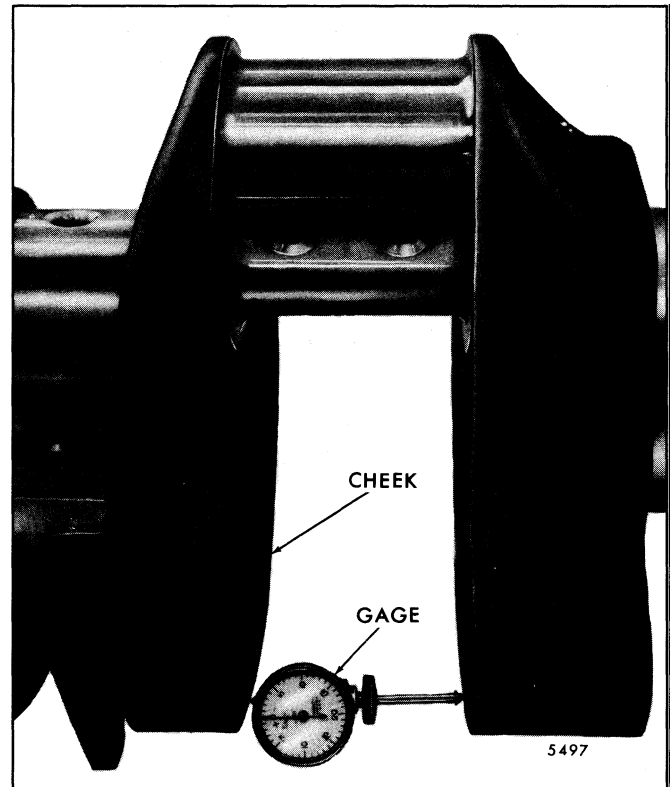

Fig. 12 - Crankshaft Distortion Measuring Gage Mounted on Crankshaft
- a. Rotate the crankshaft clockwise until the crankshaft counterweights at the rear connecting rod journal are in the six (6) o'clock position.
- c. Install a gage (Starrett Co. No. 696 dial gage, or equivalent) in the center punch holes in the cheek of each counterweight (Fig. 12).